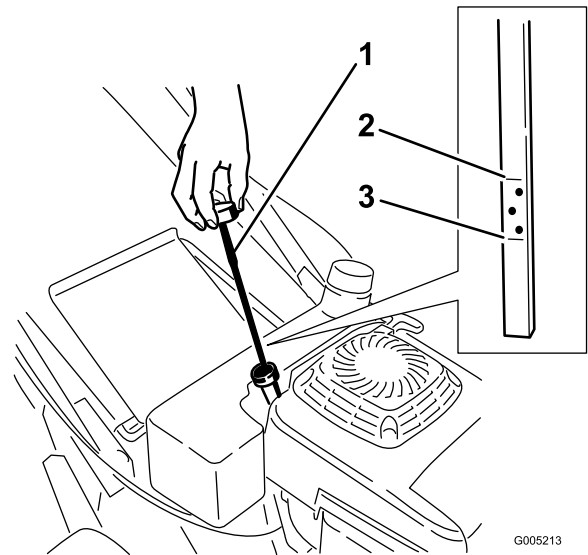

Figure 8
Before each use, ensure that the oil level is between the Add and Full marks on the dipstick (Figure 8).
2. Clean around the dipstick (Figure 8).
6. Remove the dipstick and read the oil level on the dipstick (Figure 8).